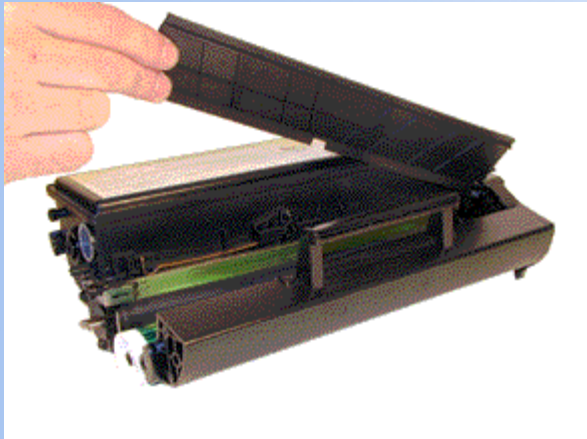

FIGURE 4
3. Remove the drum cover. Note the position of the springs. See Figure 4